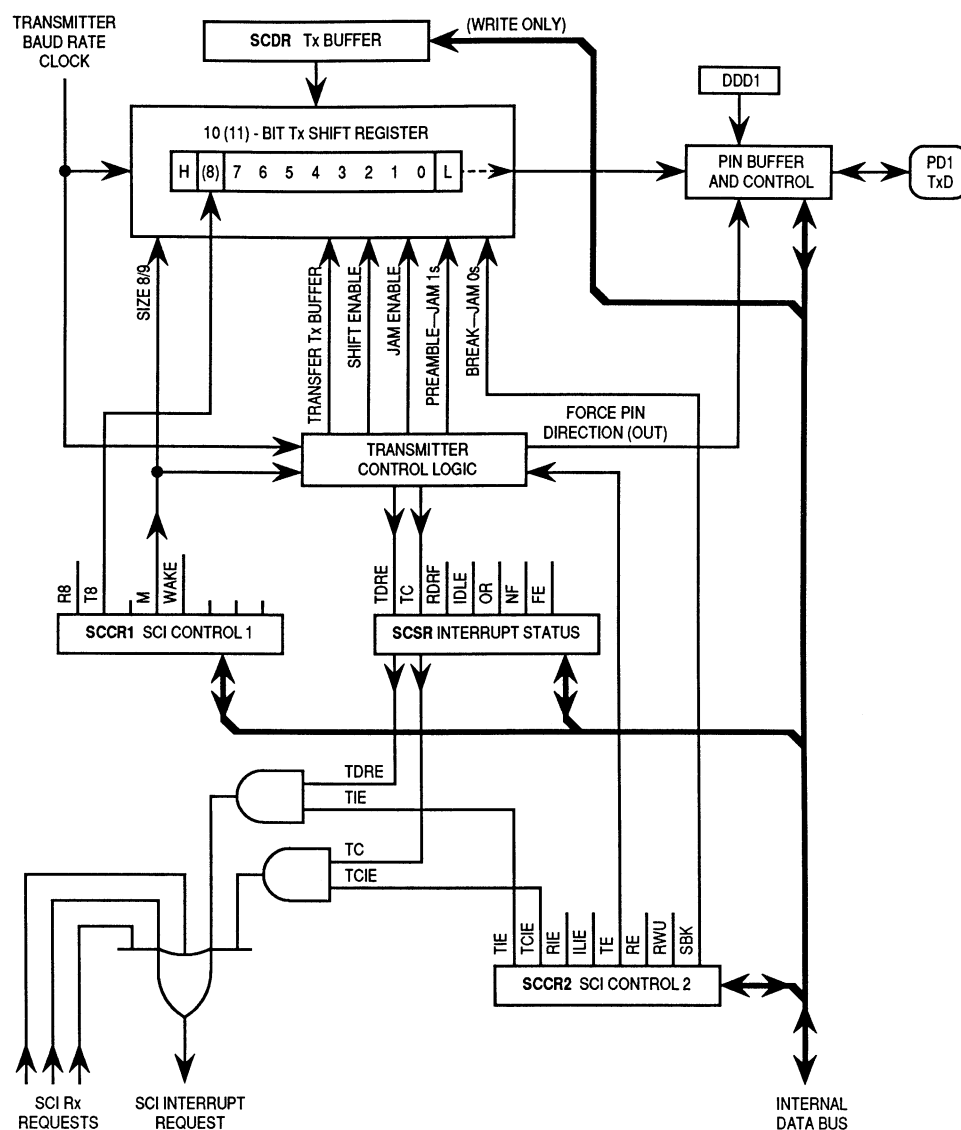

Figure 7-1. SCI Transmitter Block Diagram
The SCI transmitter includes a parallel data register (SCDR) and a serial shift register. The contents of the serial shift register can only be written through the SCDR. When the SCI is in transmit mode (TE = 1), the parallel data register SCDR is write only. This double buffered operation allows a character to be shifted out serially while another character is waiting in the SCDR to be transferred into the shift register. The output of the serial shift register is applied to TxD as long as transmission is in progress or the transmit enable (TE) bit of serial communication control register 2 (SCCR2) is set. The block diagram, Figure 7-1, shows the transmit serial shift register and the buffer logic at the top of the figure.